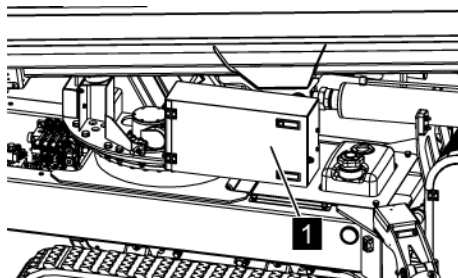

Fig. 198: Hydraulic control box
3. ➤ Open the hydraulic control box (Fig. 198/1).